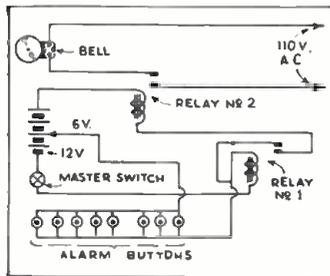

Fig. 4. above. Ford cut-outs for alarms.
**FORD CUT-OUTS MAKE RELAYS FOR BURGLAR ALARMS.** Radio Service Men who are called upon to install burglar alarm systems can oftentimes get a used 110 V. A.C. telephone signal bell and with the addition of two old Ford cut-outs, make the required relays as shown in Fig. 4.